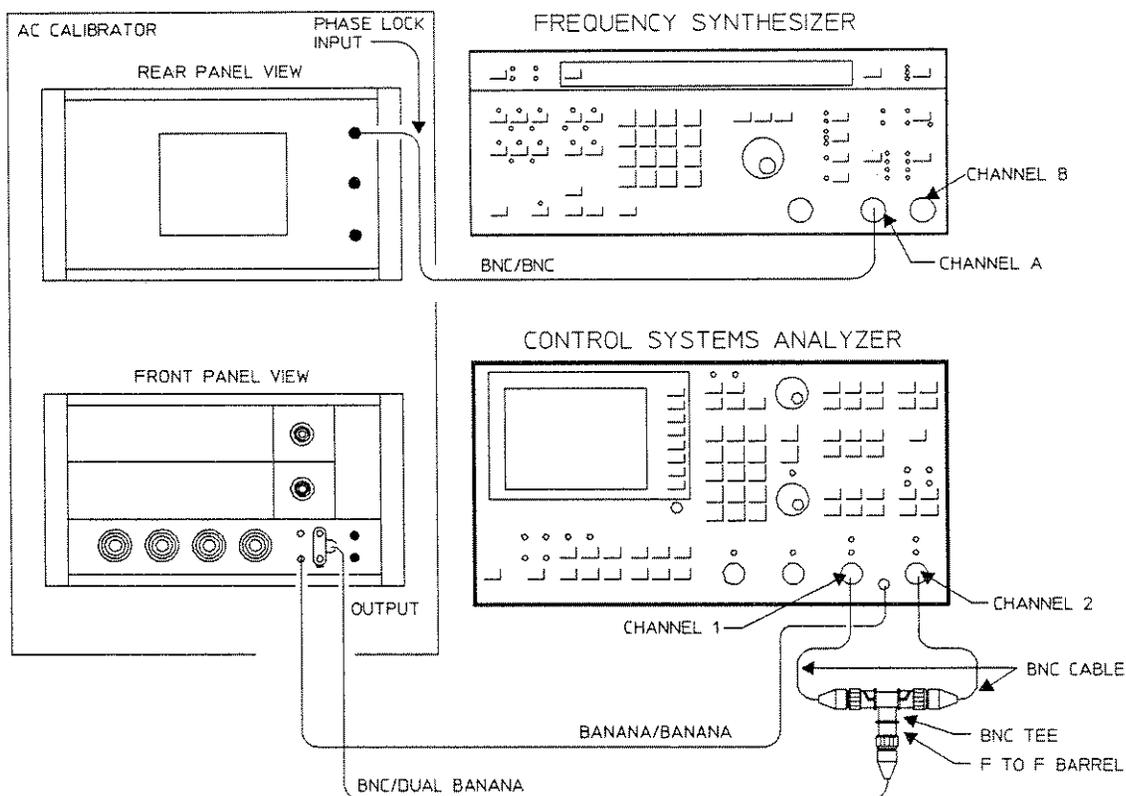

Figure 3-4. Amplitude Accuracy and Flatness Setup
1. Connect the test instruments as shown in Figure 3-4.